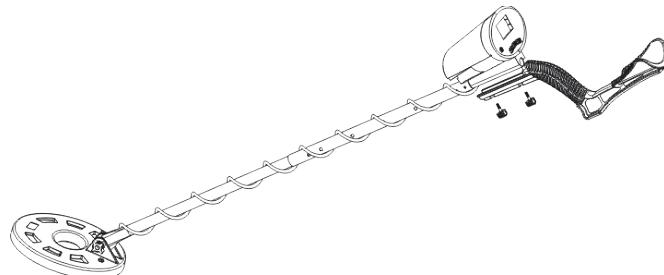

Fig. 1
1. Loosen the two triangular fasten buttons under the control box, insert to the bracket , and lock the two triangular buttons. See Fig.1